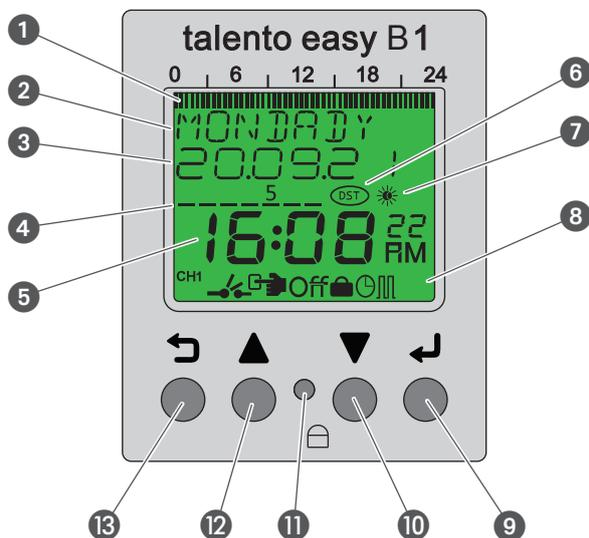

Fig. 2: Display layout
- ④ Day of the week
- ⑤ Time
- ⑥ Summer/winter
- ⑦ Day/night
- ⑧ Symbol bar
- ⑨ Enter button
- ⑩ Down button
- ⑪ Reset button
- ⑫ Up button
- ⑬ Menu button
Function buttons (Fig. 2/⑨ + ⑩)
Symbols (Fig. 2/6 + 7 + 8)
The menu structure appears on the display when you press the menu button  (Fig. 2/.